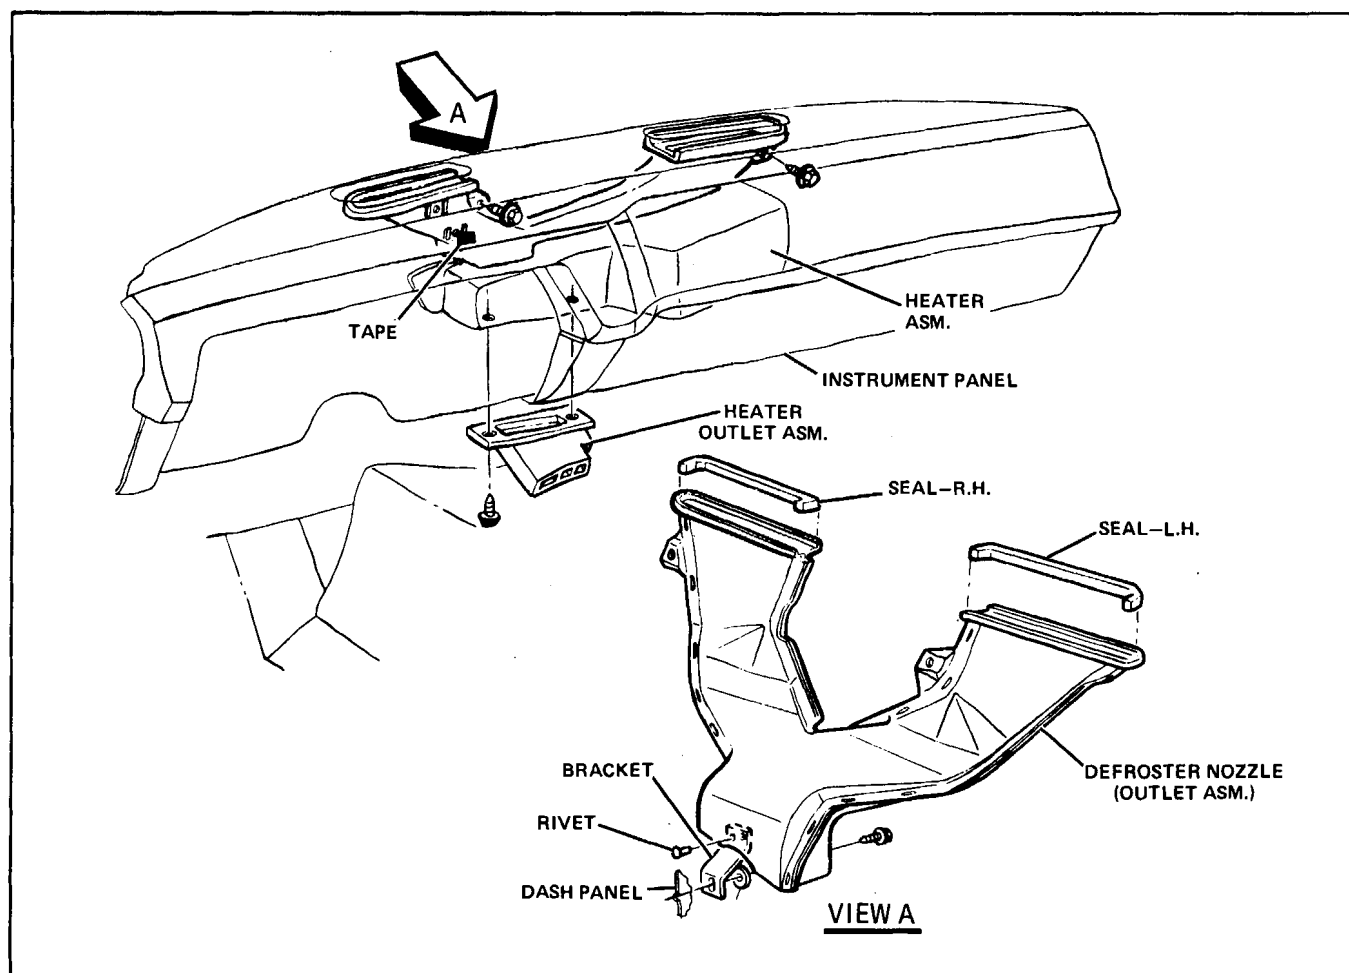

Fig. 1-24 X Series Heater Duct Installation
2. Remove (2) upper defroster nozzle attaching screws.
3. Remove lower attaching screw and washer and remove defroster nozzle (Fig. 1-24).
4. Replace defroster nozzle and (3) attaching screws.